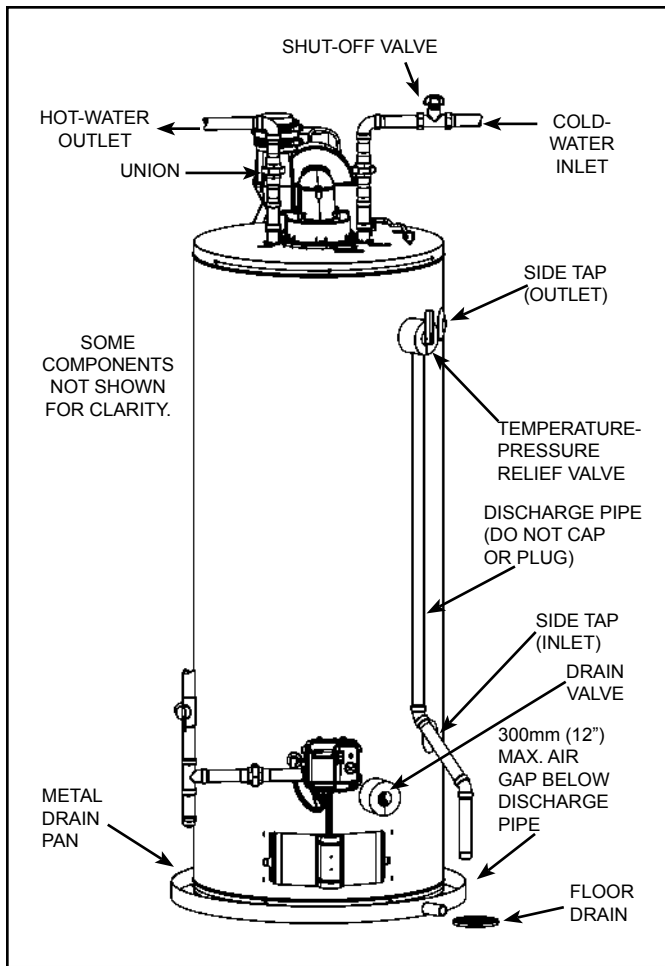

Figure 19.
1. Close the water heater drain valve by turning handle to the right (clockwise). The drain valve is on the lower front of water heater (see Figure 19).